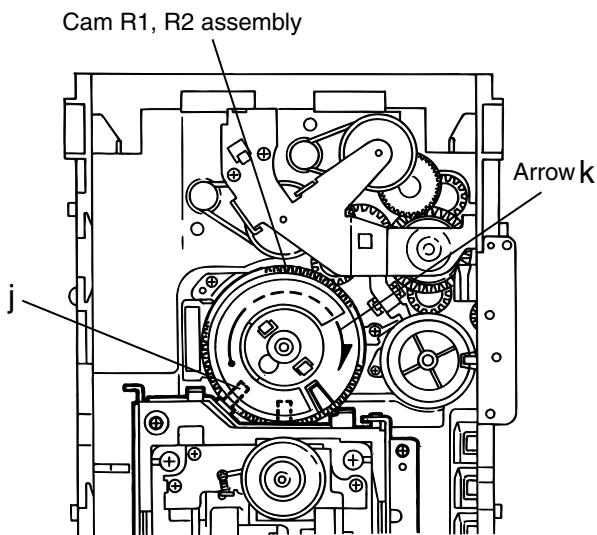

Fig.11
**■ Removing the DVD mechanism (See Fig.11 and 12 )**
1. For dismounting only the DVD mechanism without removing the DVD mechanism assembly, align the shaft j of the DVD mechanism assembly to the position shown Fig.11 while turning the cam R1 and R2 assembly in the arrow direction k.